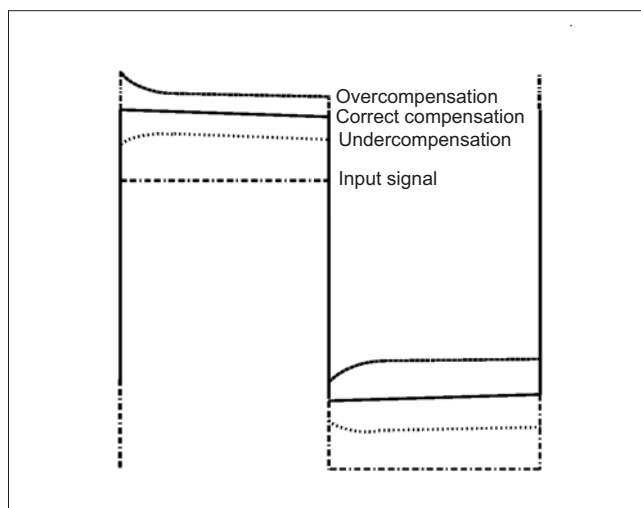

Figure 7-3 Linearity compensation.
- Adjust R196 until the pulses on the oscilloscope look the same. See Figure 7-3. Use a screwdriver type of adjustment tool.